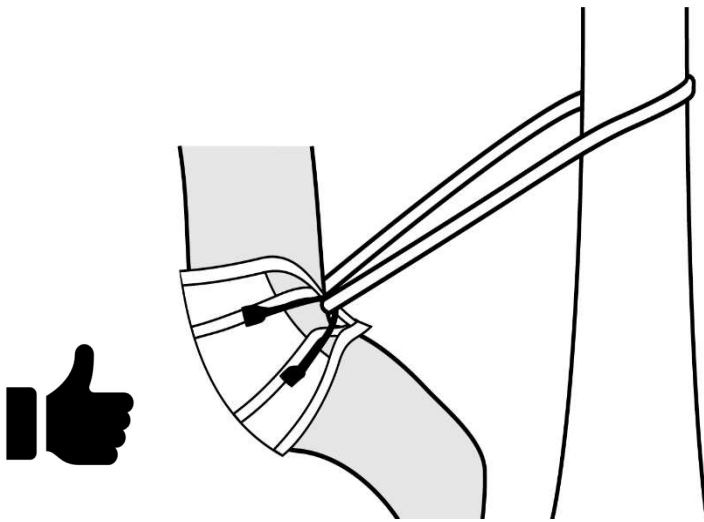

Figure 5
1. Before climbing the tree, attach your lineman belt to one lineman loop, wrap around the tree and connect to your other lineman loop via a carabiner. (Figure 5)